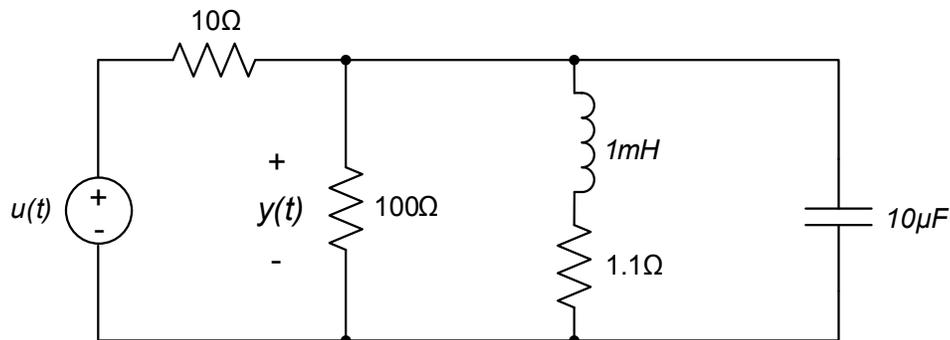

Figure 1. Circuit schematic.
In this lab assignment, we will create a state variable model of the circuit shown in Figure 1. We will simulate the response of the circuit to a step input and compare the simulated step response to the measured step response for the circuit.
The circuit of Figure 1 has two independent energy storage elements, and thus has two states. We will define states as the voltages across the capacitor and the current through the inductor. Our lab equipment does not readily allow for measurement of time-varying currents; therefore we will use the measured voltage across the resistor and Ohm's law to infer the current through the inductor.
Determine a state variable model for the circuit shown in Figure 1. Use the voltage across the capacitor and the current through the inductor as your states. Simulate the response of your system using MATLAB or Octave. Plot the responses of both system states vs. time and the state trajectory. Your model should output both system states. The input voltage $V_{in}(t) = u_0(t)$ Volts, where $u_0(t)$ is the unit step function.
- DATA Construct the circuit shown in Figure 1. Record actual values for all resistors and the capacitor. (If your DMM does not have the capability of measuring capacitance, you may omit the capacitance measurement.)
Oscilloscopes do not provide the capability to measure time-varying currents, so we will infer the current through the inductor from the voltage across the nominal 1.1Ω resistor Figure 1. If we measure the voltage $v_R(t)$, we can calculate the inductor current as $v_R(t)/1.1\Omega$. To set up your oscilloscope to display the current through the inductor, do the following: